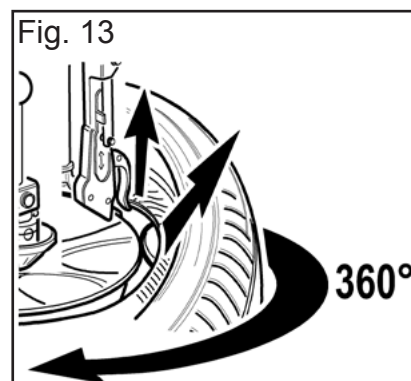

Fig. 13
- Take the tool out again, position the second bead of the tyre over the tool and raise the tool, using lever H. (fig. 13)